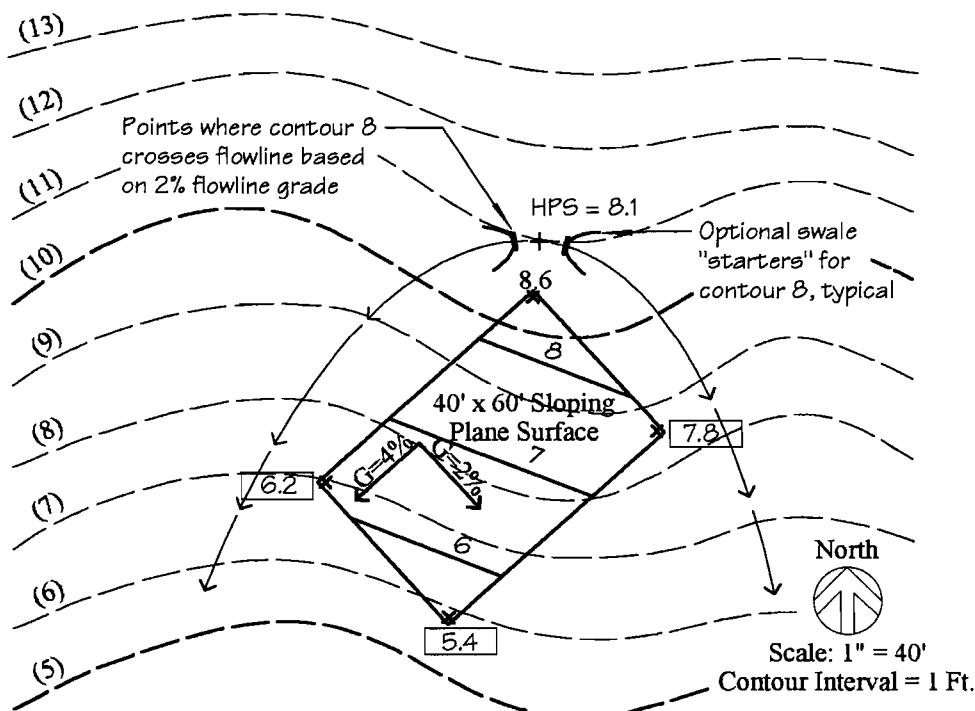

Figure 4-23. Finding Length to Points Where Contour 8 Crosses Flow Line
Step 6. Identify the whole number contour line crossing points for the first contour below the high point swale as shown in Figure 4-23. Since the high point swale elevation is 8.1, contour 8 will
Although the swale “starters” shown on Figures 4-23 are optional, they can help you correctly orient the contour lines to create a swale signature in the next step.